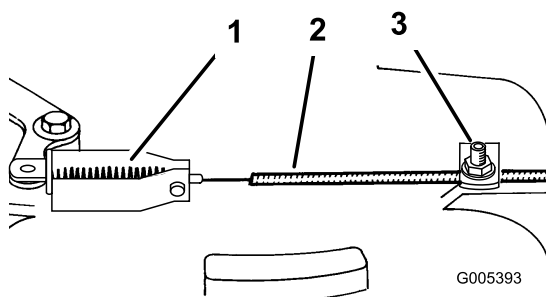

Figure 32
3. Loosen the cable clamp screw until the brake cable conduit slides (Figure 32).